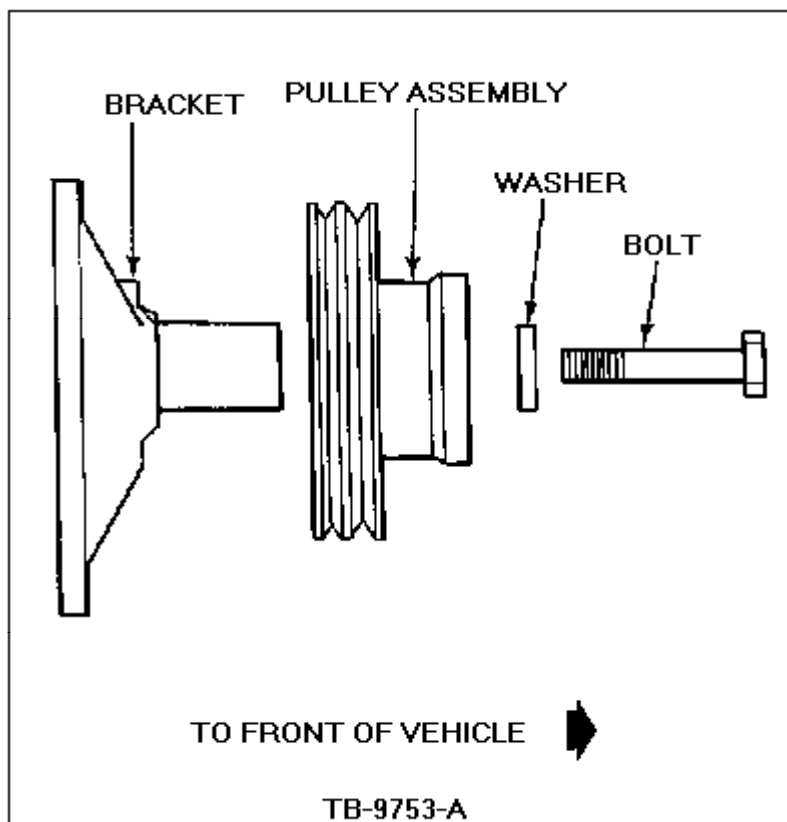

Figure 1 - Article 90-17-15
1. Remove the center retaining bolt and washer, Figure 1.
2. Press out the fan bracket from the fan pulley by using a 1 3/4" diameter arbor, Figure 1.